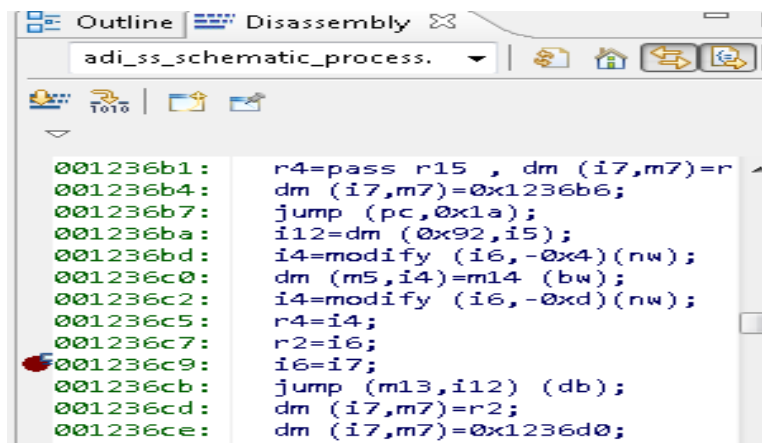

Figure 33: Set Breakpoint in Disassembly Function
19. Scroll down in the Disassembly function and set breakpoint in the instruction shown in Figure 33. There will be a pop up when breakpoint set, just select “Don’t show me again” and press “OK”.